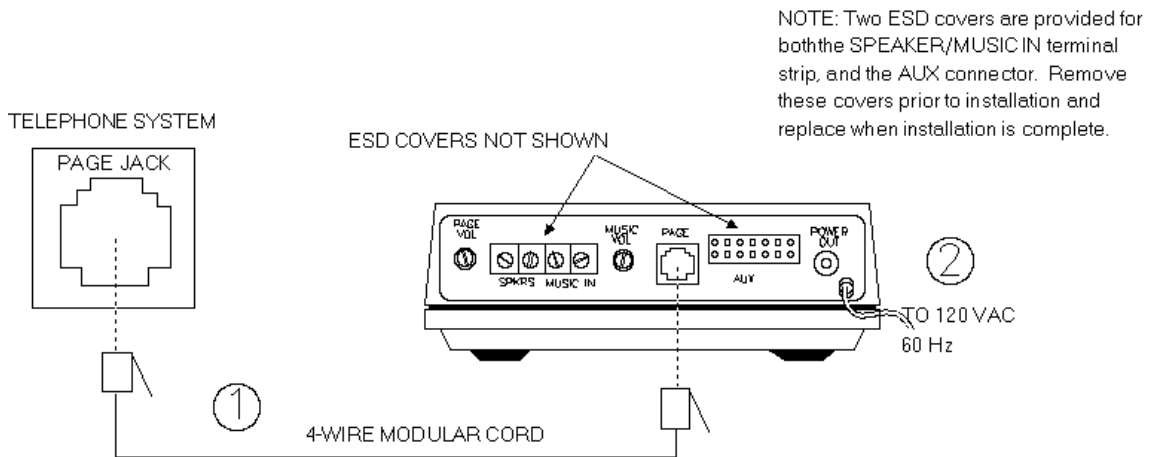

Figure 2. Connections to a Page Port with RJ-11 Jack
- Circled numbers in Figure 2 correspond to the steps in the following installation procedures.